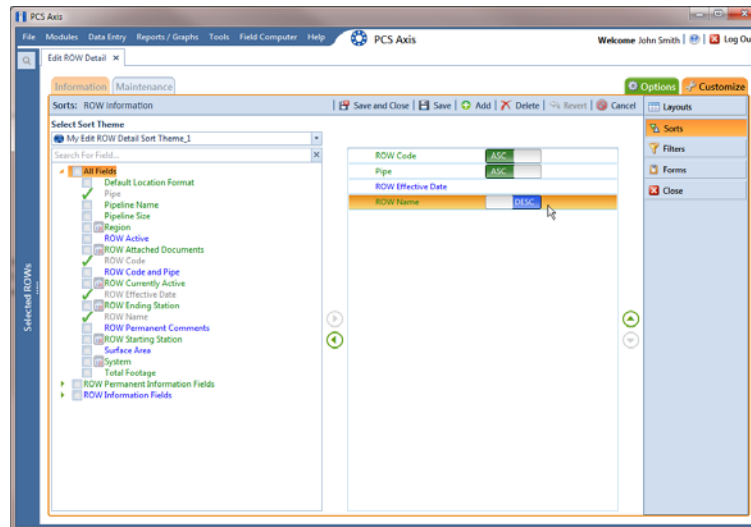

Figure 4-38. Sorts
- 8 Click  **OK** to save changes and return to the *Sorts* page (Figure 4-38, page 162).